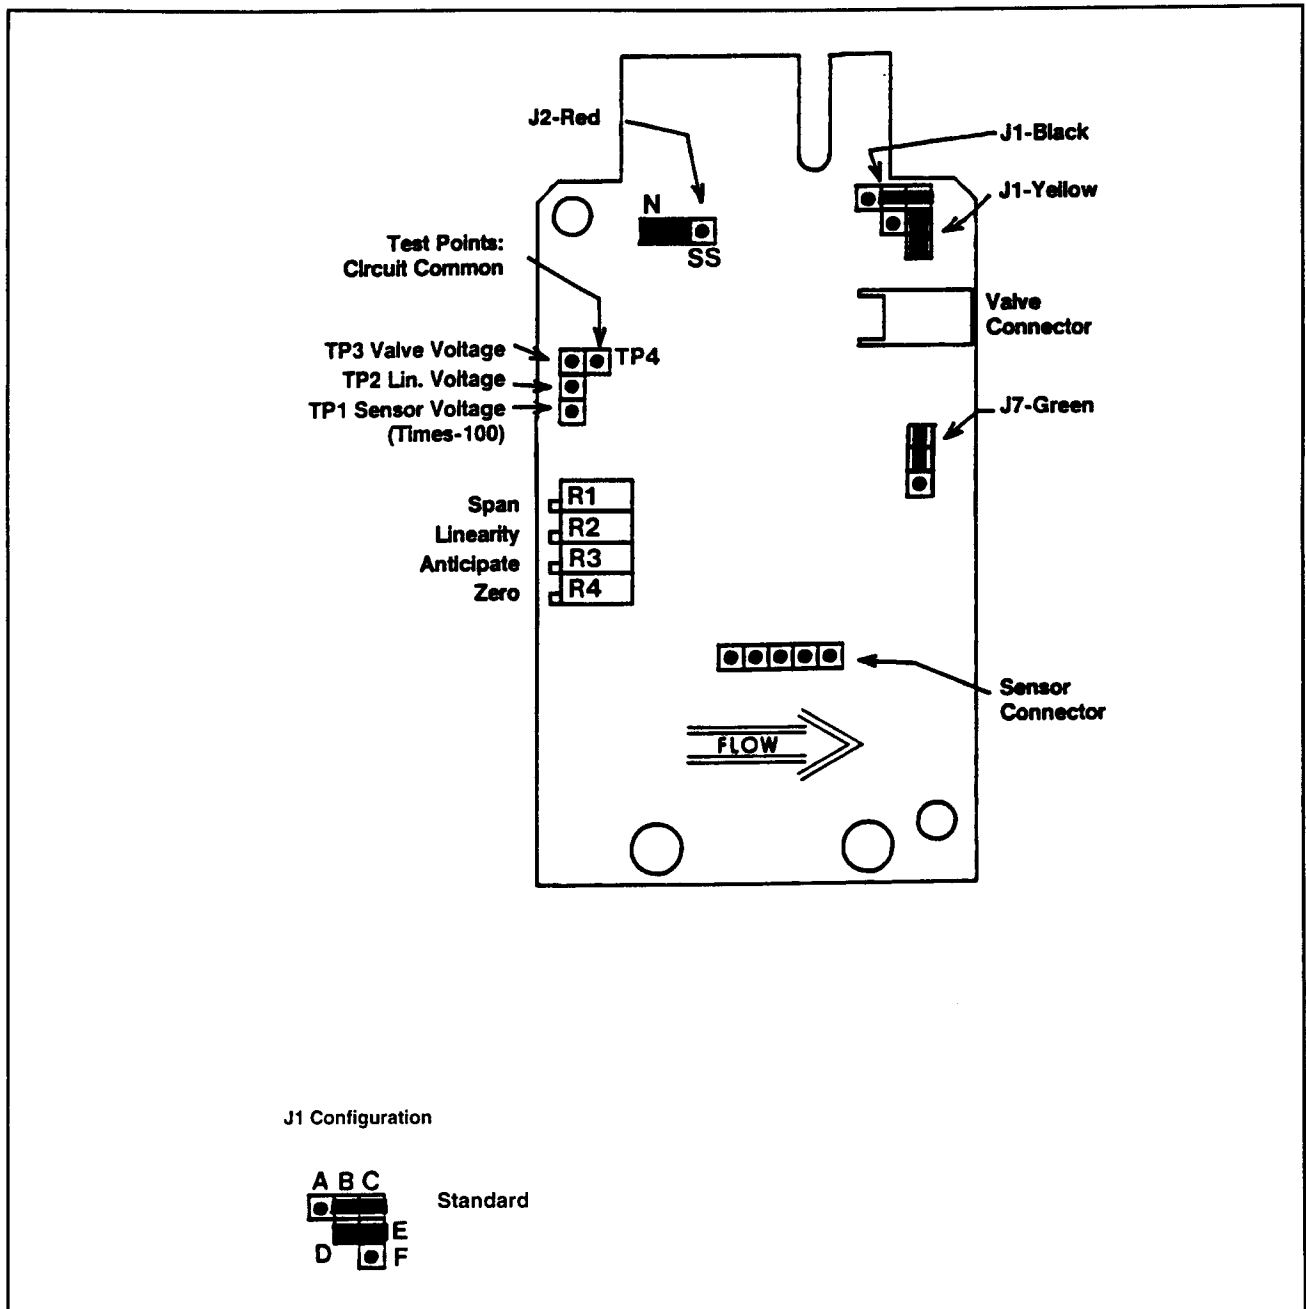

Figure 3-3. Card Edge PC Board Jumper Location & Function
Refer to Figures 3-3, 3-4. To enable soft start, place the red jumper on the controller printed circuit board at J2 in the right hand (ss) position.
4. Verify that all user selectable jumpers are in their desired positions. Refer to Figures 3-3 and 3-4.